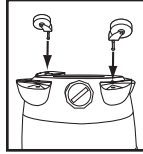

FIGURE 10
8. Take the remaining casters and place a flat washer over the stem of each caster. Insert casters into caster feet by placing the caster stems into the holes provided. Apply pressure and twisting motion until casters snap into place. **FIGURE 10.**